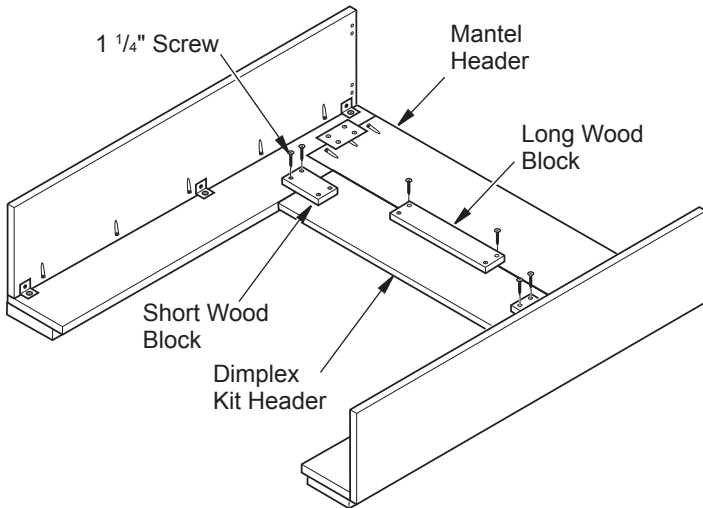

Figure 6 - Mantel Kit Installation for Dimplex
6. Place Dimplex kit header into space below mantel header (see Figure 6). Push the kit header tightly against mantel header and attach blocks to mantel using 1 1/4" screws provided.